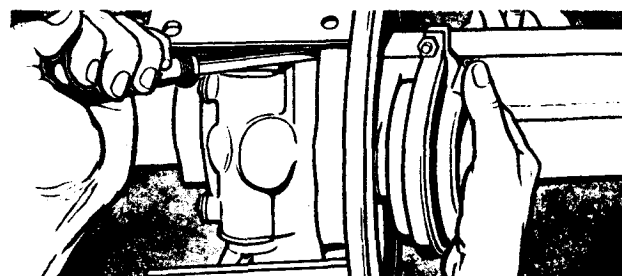

FIG. 16
2. Screw the power unit into the plunger housing until it bottoms. This will push wedge assembly between plungers and lift them off their seats inside the housing. By pushing on one shoe or plunger, the second shoe or plunger will be seen to move. (Fig. 16)